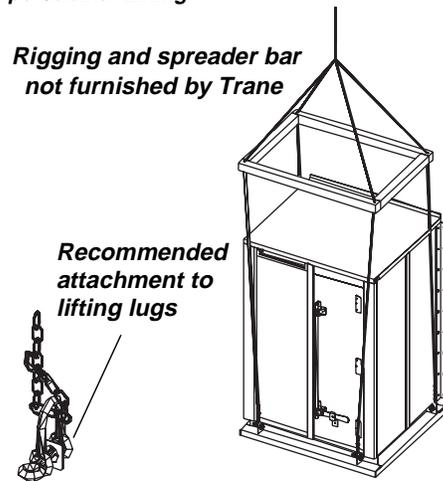

Figure 4
- 2 Lift all sections individually using all lifting lugs provided and shown in *Figure 4*. See specific instructions for handling the inlet and exhaust hoods and pipe chase in paragraphs following.